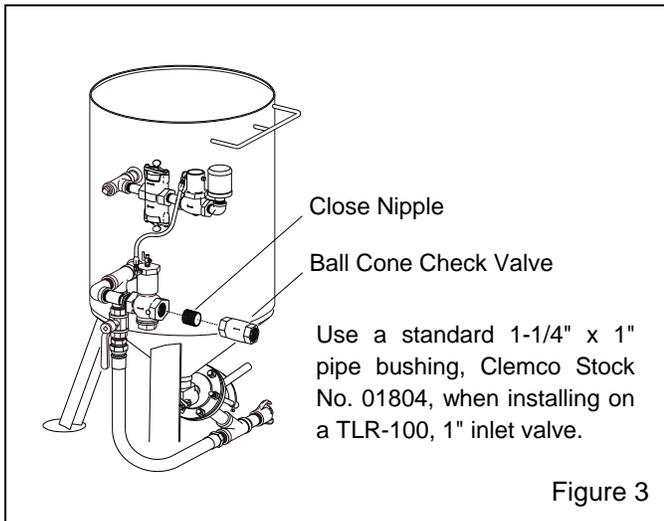

Figure 3
**2.3.1** Where multiple blast machines are operating from a single air source, install a ball cone check valve at the air supply on each machine. Refer to the illustration in Figure 3 to install a check valve on a blast machine.